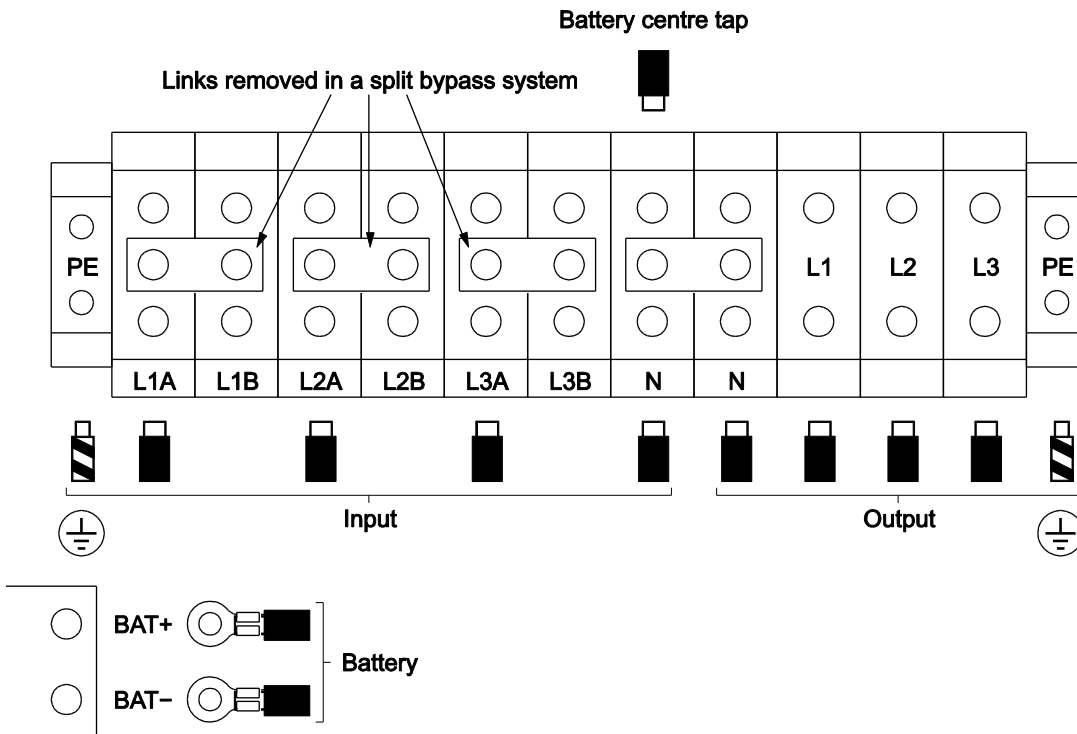

Figure 6 Cable connections for E480 units
- E480: to **L1A, L2A, L3A** (Figure 6)
- a. Check the following: E480: that the links in Figure 6 have been removed.
E480: to **L1B, L2B, L3B** (Figure 6)